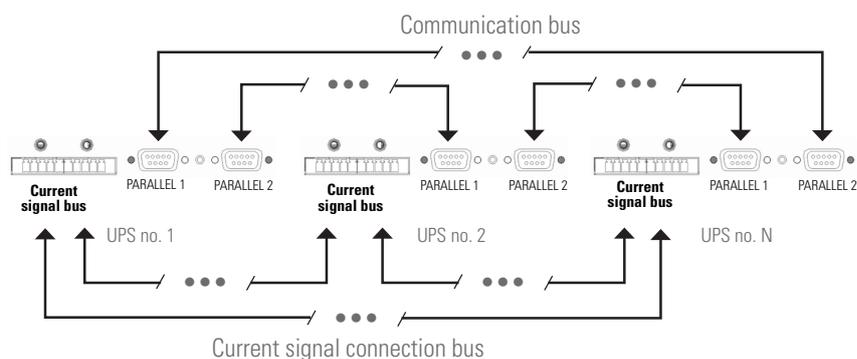

Fig. 45. Current signal and communication bus connection.
- **Current signal bus.** Use the cable with connectors at the ends to connect the current signal between consecutive devices, as shown in Fig. 45. Lastly, close the bus loop between the last and first devices.